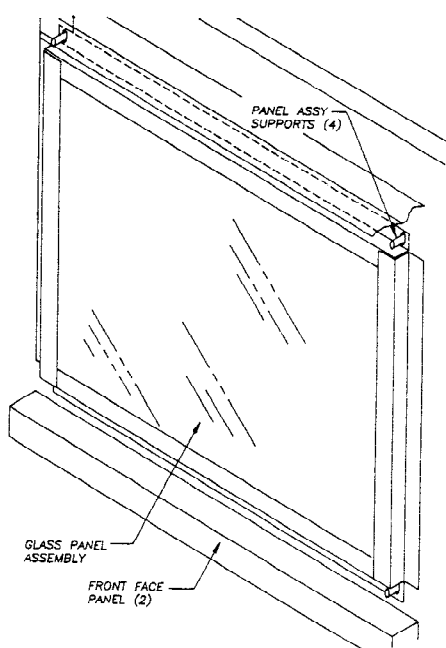

Figure 27
3. Remove two (2) removable center braces, located in front of and directly above and below the glass panel, by pulling **gently** on the outside edges. Remove four (4) nuts located in the corners of the glass panel assembly (see **Figure 27**).